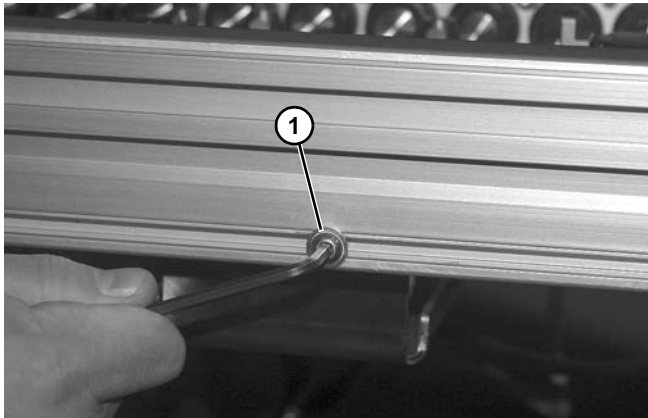

Figure 13
4. Secure cover with screws (Figure 13, item 1).